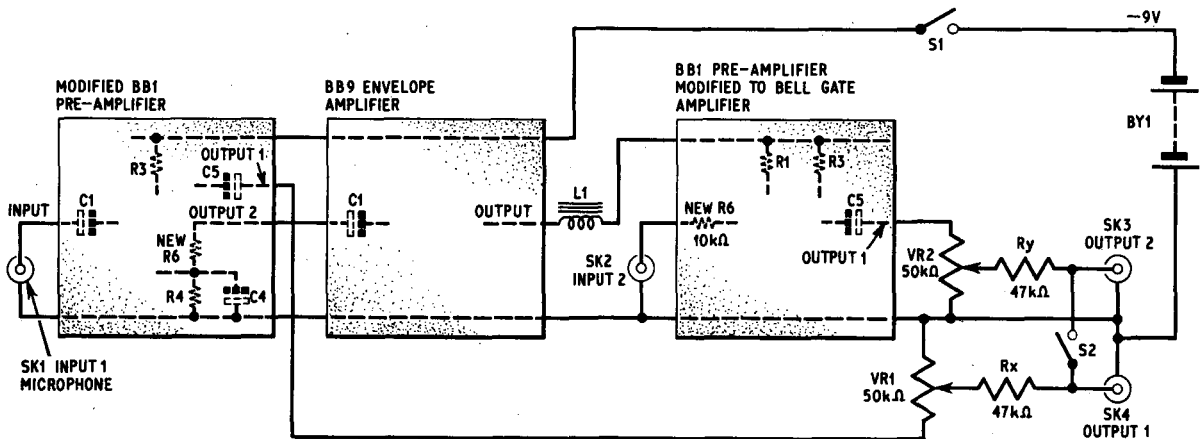

Fig. 1. The complete vocal sound effects unit after circuit modifications. A tone generator is connected to SK2
The basic circuit is shown in Fig. 1. The signal from the microphone is amplified by a slightly modified version of the "Pre-amplifier" described last month. Both outputs of this unit are used: the signal from output 1 is made available through a volume control VR1 and Rx for listening to the "true" sound. The signal from output 2 of the pre-amplifier is fed into an "Envelope Amplifier" (see BB9 article) which converts it to d.c. proportional to the amplitude of the a.c. signal. This d.c. drives the bell gate amplifier. No other power supply is needed for this amplifier.
Referring first to the *pre-amplifier*, make up this unit according to the article (BB1, Figs. 1 and 2, page 182 last month) and carry out the following modifications:
- (6) SK2, SK3, and BY1 (in Fig. 1, page 182) can be omitted.
Refer to Figs. 1 and 2 on pages 182 and 183 of last month's issue when carrying out the modifications.
The three units can now be assembled and wired together according to the circuit in Fig. 1. Be sure to get the interconnections between units correct. Extra components will, of course, be required and these are specified in the components list. The choke L1 has an inductance of 10 henries which, when combined with C3 in the bell gate amplifier, smooths the d.c. from the envelope amplifier. It is likely to be a bulky item so it will have to be mounted separately in the box.